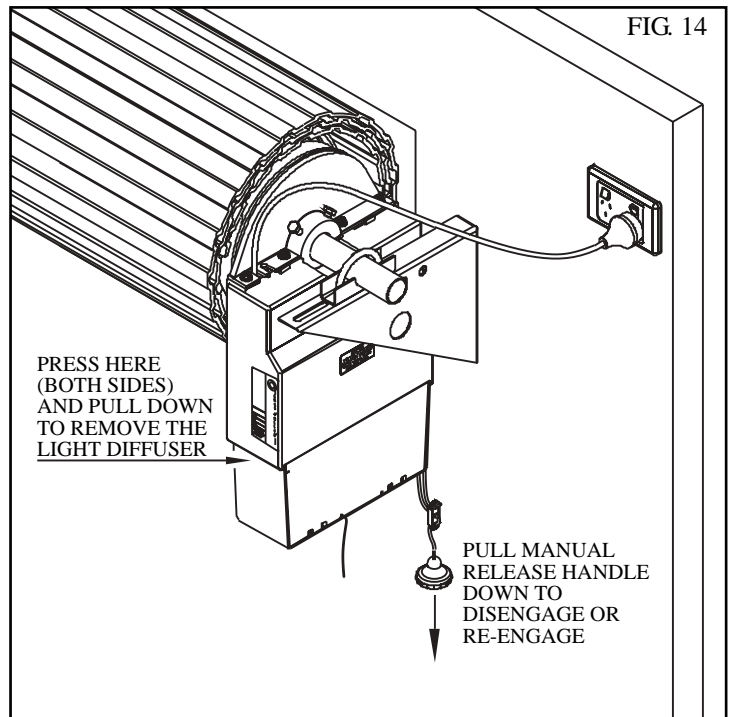

FIG. 14
1. With the drive assembly in manual mode (Fig. 14) move the door up by hand to an approximately mid open position.